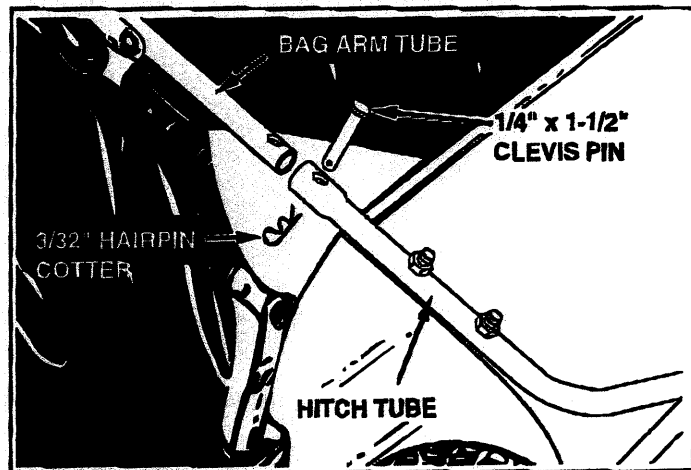

FIGURE 5
7. Assemble the hopper bag to the sweeper by sliding the ends of the bag arm tubes into the ends of the hitch tubes. Secure with two $1/4" \times 1-1/2"$ clevis pins and $3/32"$ hairpin cotters that came preassembled to the hitch tubes. See figure 5.